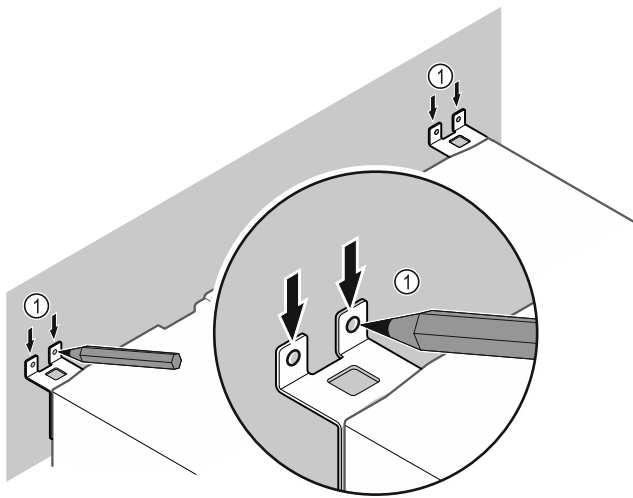

Fig. 70
- ▶ Make markings on the wall *Fig. 70 (1)*.